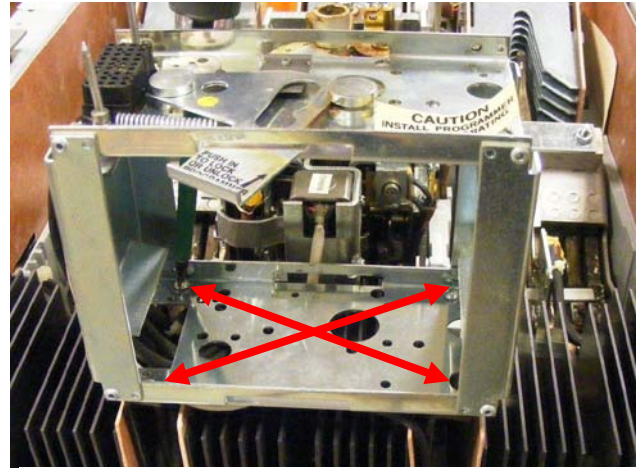

FIGURE 18, REMOVE INDICATED SCREWS
5.11. Carefully remove the front mechanism from the breaker. When doing so, be prepared to support both halves of the breaker. Remove the existing box mount by removing the 4 screws indicated in figure 18.